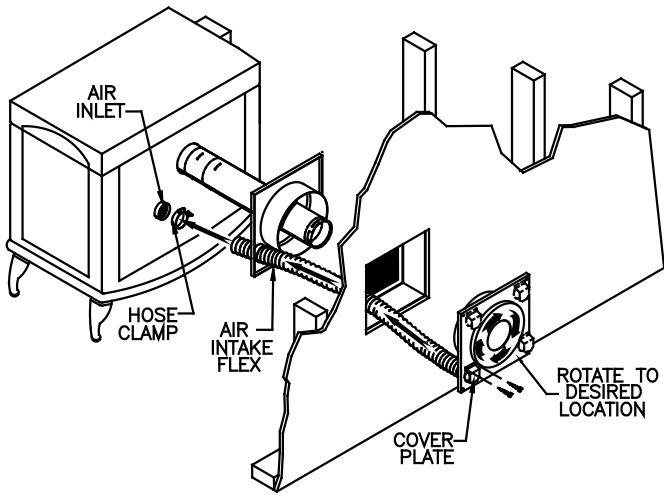
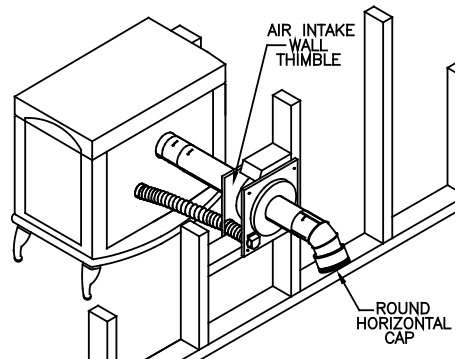

Figure 12
Figure 13
Connect the flexible hose with clamp to the exterior half of the Wall Thimble. Guide the flex through the opening in black interior half of Wall Thimble, gently pull the flex towards appliance (**Figure 12**), and if necessary trim excess flex to required length with snips. Secure flex to combustion air inlet of the stove with clamp provided. Only connect metal flex to the appliance; do not substitute or install plastic flex. The cover plate comes installed on the lower left corner of the thimble with intake guard pointing downward to deflect rain. If it is desired to rotate thimble and air inlet to another corner, remove the (2) screws on the inlet guard and re-attach over air inlet at new location. Secure black interior half of the Wall Thimble to the interior wall, and the unpainted exterior half are to be secured to the exterior wall on both styles of thimbles (**Figure 13**). The Wall Thimbles adjust to fit walls from 4"-8" thick. For installation in thicker walls an extension tube may be field fabricated.
5. If the flue exit is on back of the stove, and a horizontal through-the-wall installation is desired (**Figure 13**):